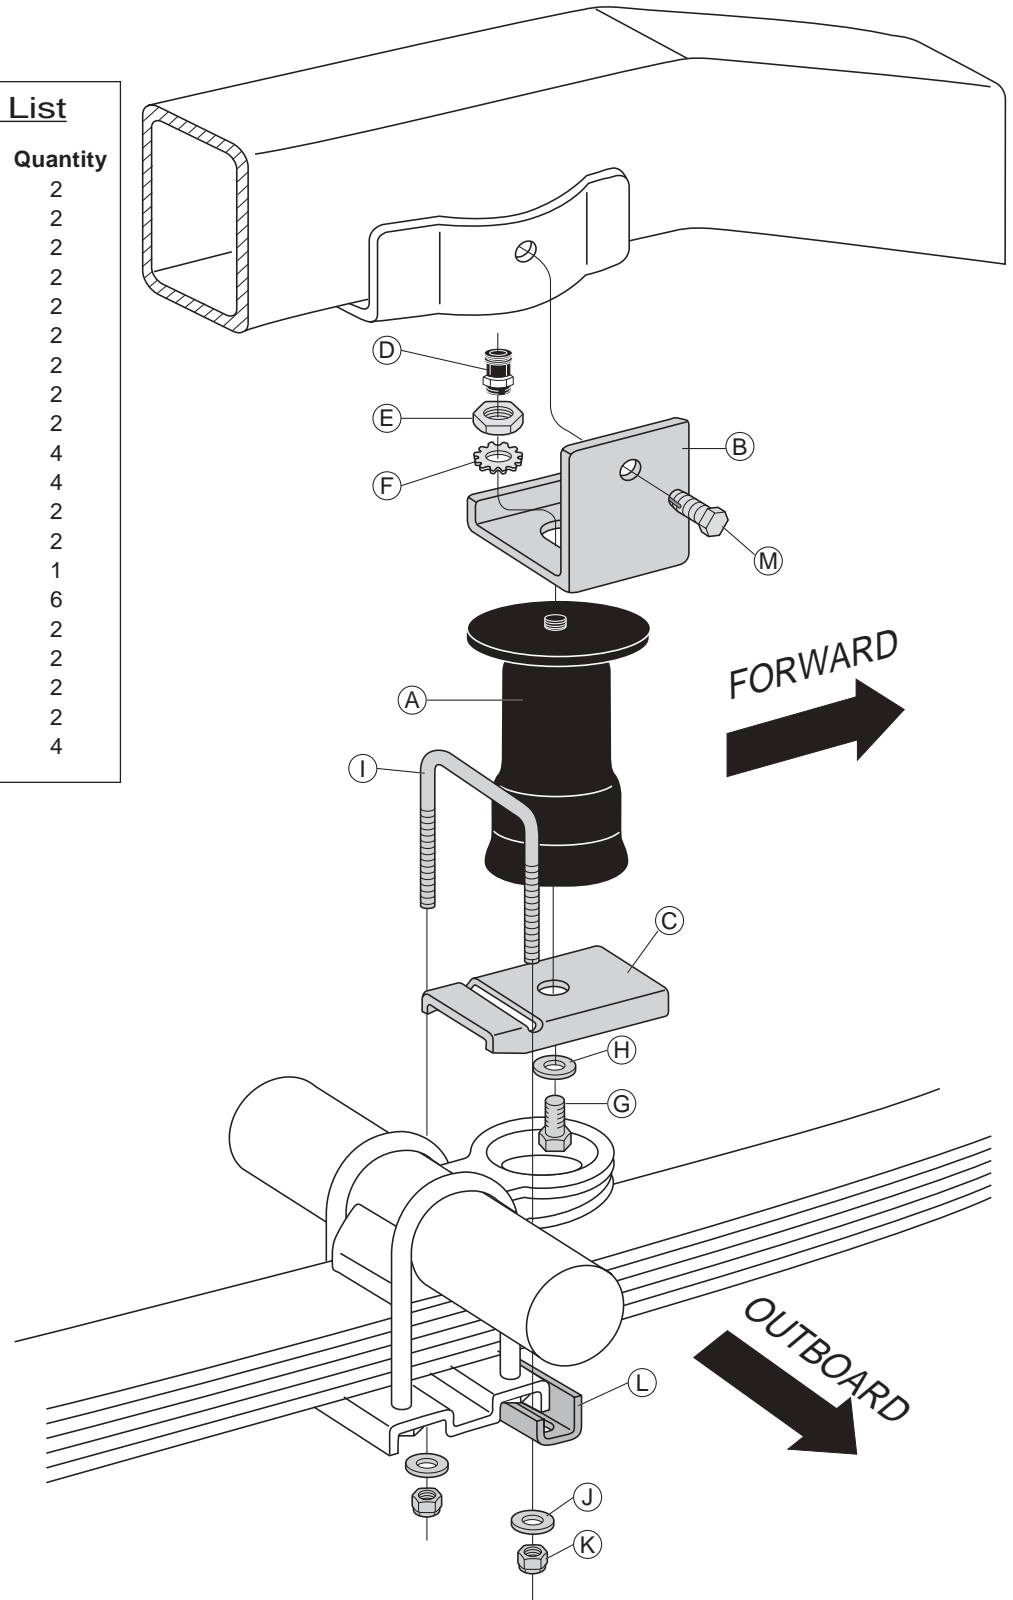

Figure 1
1. Install the straight air fitting (D) to the top of the air spring (A). Tighten finger tight plus 1 and 1/2 turns (Figures 1 and 3).
2. Install upper bracket (B) to the top of the air spring by inserting the air fitting through the large slot on the bracket (Figures 1 and 3).
3. Install star washer (F) and nylon nut (E) over the air fitting in order to secure the upper bracket to the air spring. Leave loose at this time for later adjustment (Figures 1 and 3).
- Place U-bolt (I) on the top of the lower bracket (C) in the notched location and attach the lower bracket to the bottom of the spring using a hex bolt (G) and flat washer (H). Tighten to 15 ft-lbs (Figures 1 and 4).